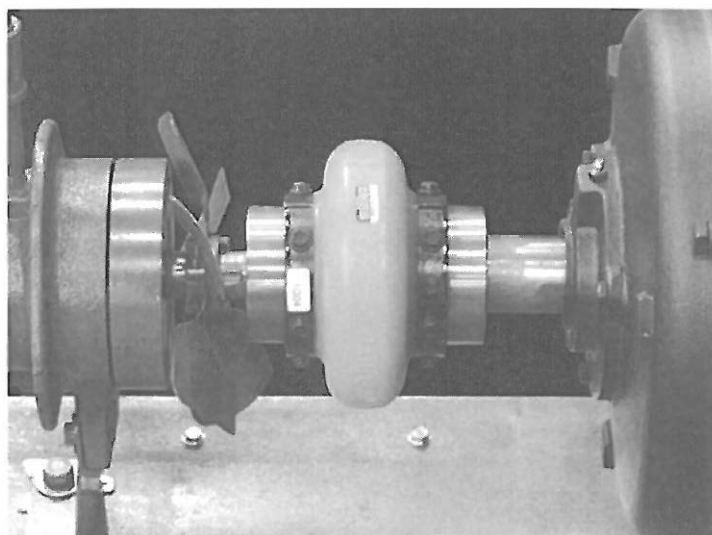

FIGURE 28 - PUMP COUPLING
8. Check the tightness of all couplings, including the fuel oil pump drive (oil-fired units), fan impeller, circulating pump, etc. See Figure 28.